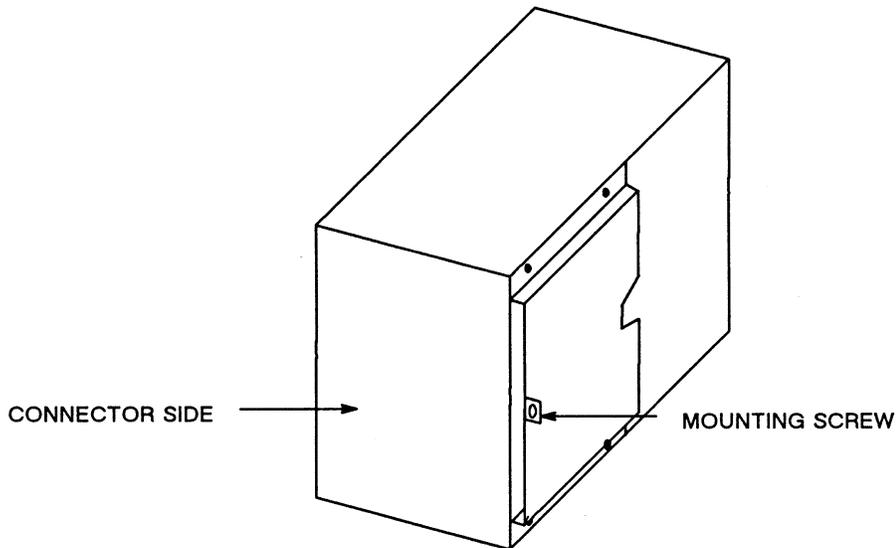

Figure 7-13. Mounting a 170MB Disk Drive
4. Positioning the disk drive so that the mounting plate is on the right-hand side, insert the disk drive into its proper slot. Be sure to insert the protruding steel lip on the bottom of the disk drive mounting plate into the slide rail on the deskside module mounting bracket. Push the disk drive into the bracket. See Figure 7-13.
Figure 7-13 shows the proper orientation of a 170MB disk drive for mounting to the deskside module bracket.